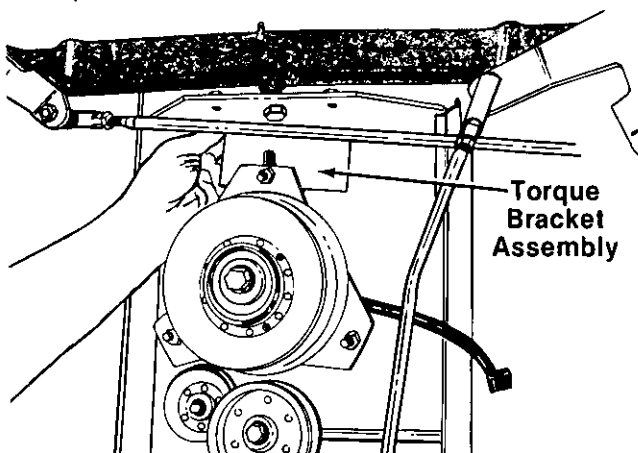

FIGURE 24.
2. Remove the torque bracket assembly by removing two hex bolts and lock washers on the front of frame under the engine. See figure 24.